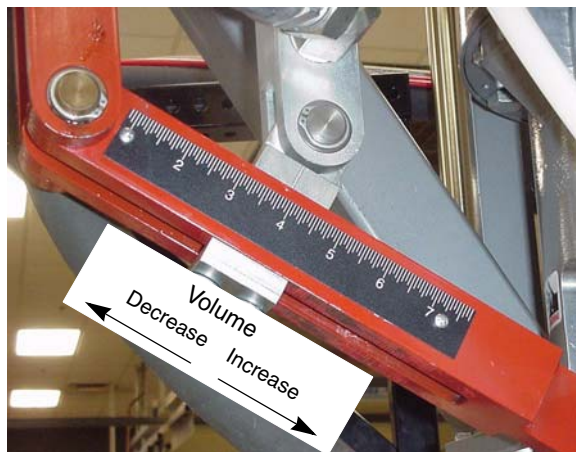

FIG. 6
To adjust the volume of material displaced by the slave pump (AA), loosen the clamping bolts (BB) on the adjuster at the bottom of the frame. See FIG. 7. Slide the adjuster along the setpoint scale (CC). Move adjuster toward the master pump to increase volume (closer ratio) and away from the master pump to decrease volume (wider ratio). See FIG. 6. Refer to the scale on the pivot arm. It may be necessary to jog the air motor with the air control ball valve to reposition the adjuster. When adjuster is in desired position, tighten the bolts (BB).